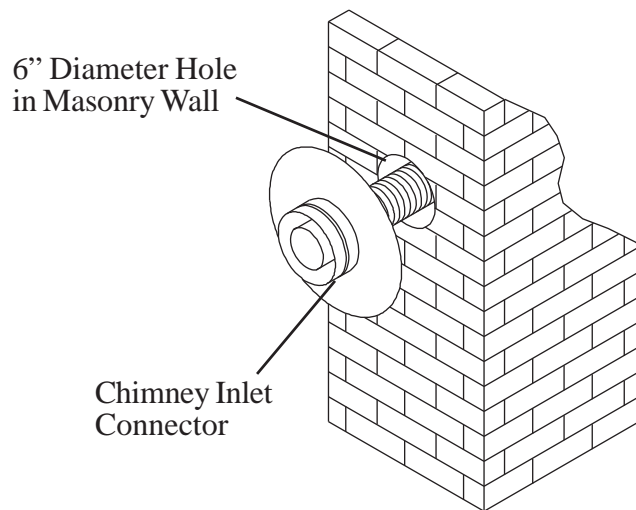

Fig 9
8. Attach the flex to the Chimney Inlet Connector. Use three sheet metal screws to attach the flex liner to the Connector. See Figure 9.